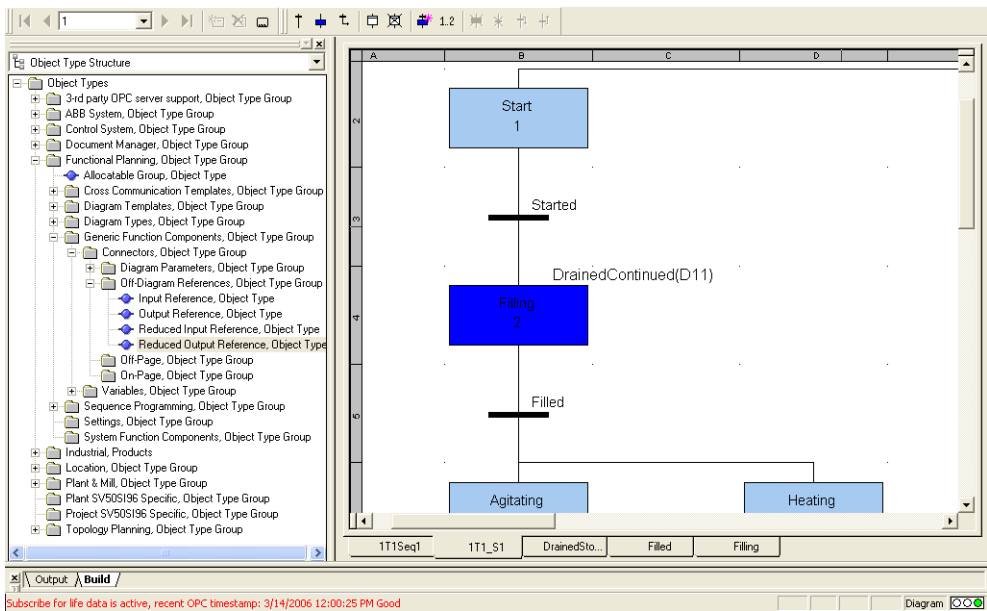

Figure 50. Overview Diagram On-line, Step Filling Active
- the sequence overview diagram, see Figure 50.